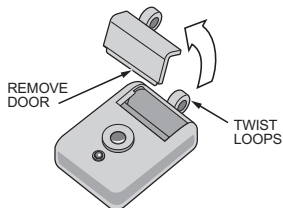

Figure 1. Removing Battery Door
STEP 1: Twist the lanyard loops and remove the battery door. (see figure 1)